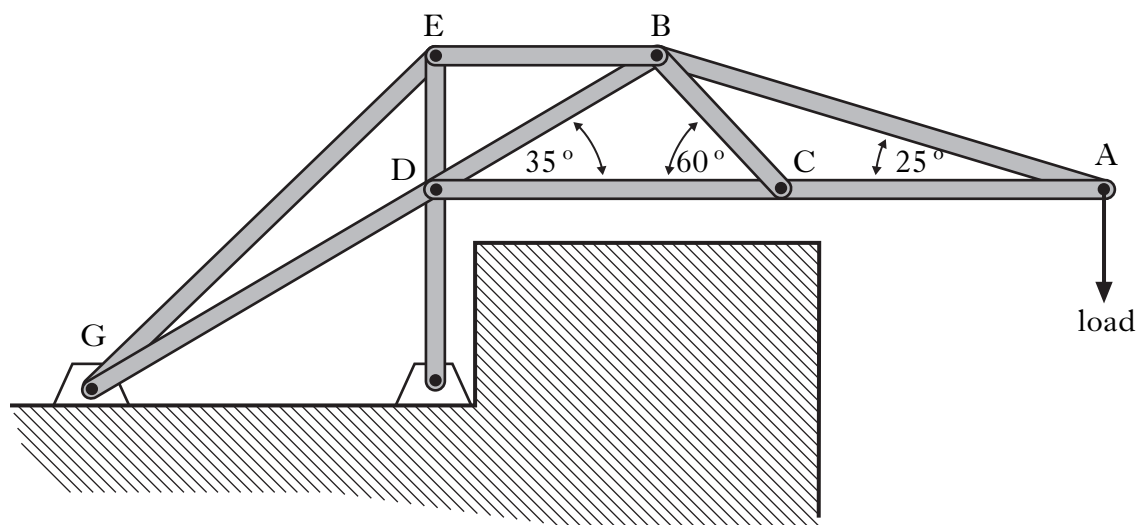

Figure Q9(a)
9. A frame for supporting a maintenance platform suspended from the top of a building is shown in Figure Q9(a).